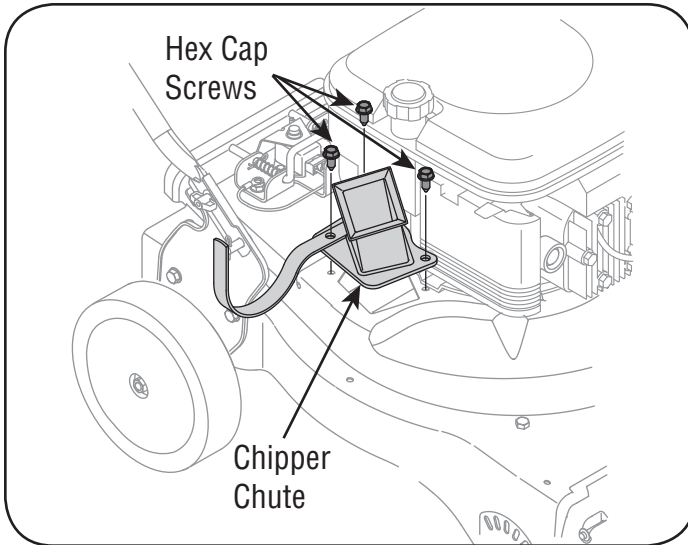

Figure 22
3. Remove the three hex cap screws holding the hose hanger bracket and chipper chute to the upper housing. See Figure 22.